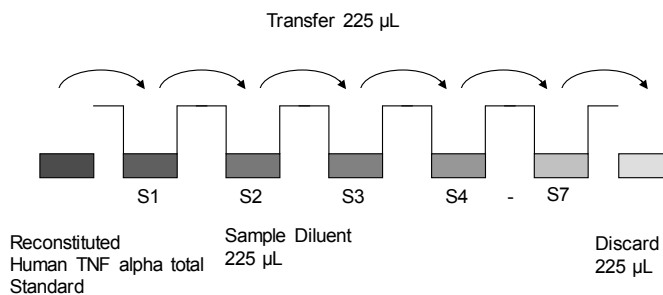

Fig. 6 Dilute standards - tubes
- Repeat serial dilutions 5 more times thus creating the points of the standard curve (see Figure 6).